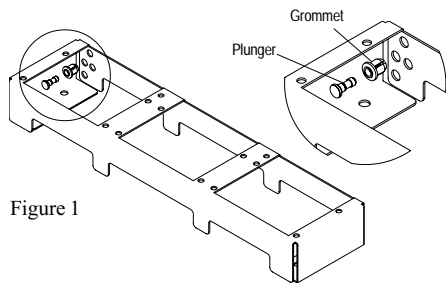

Figure 1
- Insert one grommet into each of the four holes on the inside of the bracket (see Figure 1);